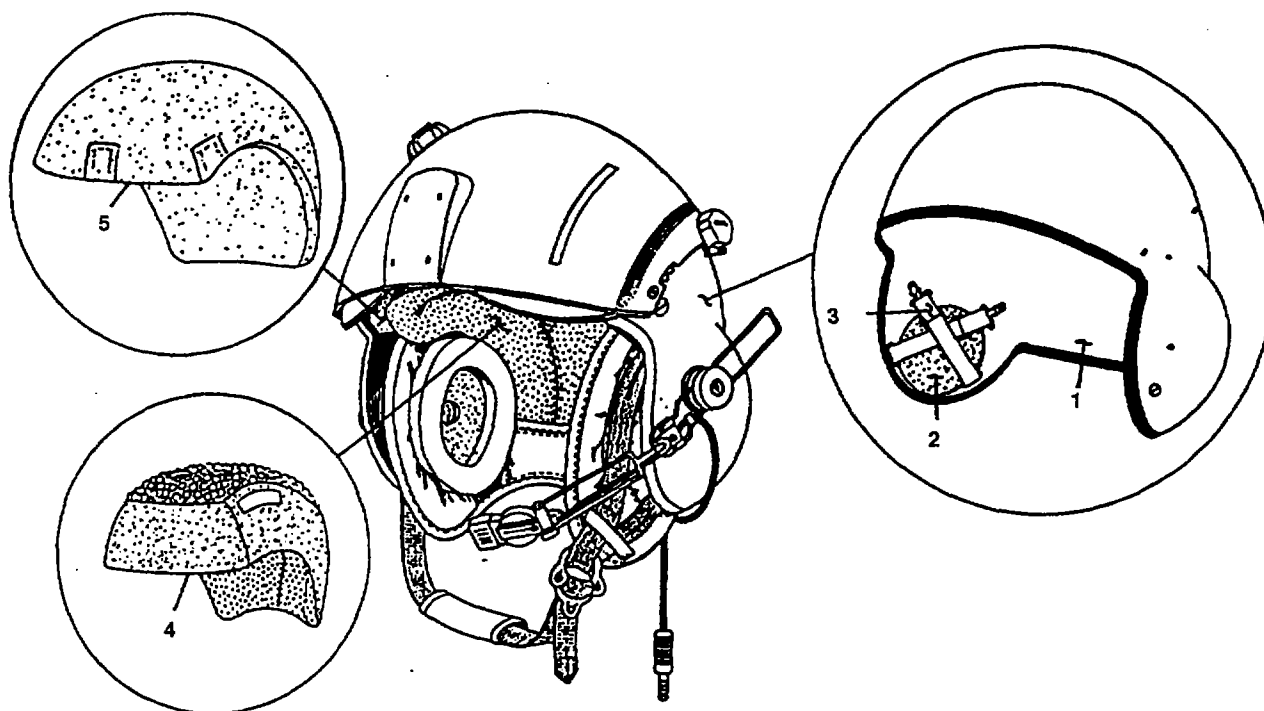

Figure 1-2. SPH-4B Helmet Shell and Liner System
a. **Helmet Shell (Figure 1-2).** Finished with rubber edge beading, the lightweight composite helmet shell (1) protects the head from Impact. Chafing pads (2) prevent the earcups from chafing against the shell. Cross straps (3) regulate earcup tension, thereby controlling earseal compression for optimum fit and noise reduction.
b. **Liner System (Figure 1-2).** The SPH-4B liner system replaces the sling suspension systems of earlier SPH models. It consists of two liners: an energy-absorbing liner and a thermoplastic liner.
(1) **Energy Absorbing Liner.** The polystyrene energy-absorbing liner (5) absorbs and reduces impact forces. It is attached to the inside surface of the helmet shell with hook-and-pile fasteners.
(2) **Thermoplastic Liner.** The liner (4) is a lightweight comfort liner. It consists of layers of molded plastic attached to a removable, washable cloth cover. The sides of the cloth cover are made of pile fastener to attach the liner to hook fastener on the inside surface of the energy-absorbing liner. The preformed liner fits most head shapes.